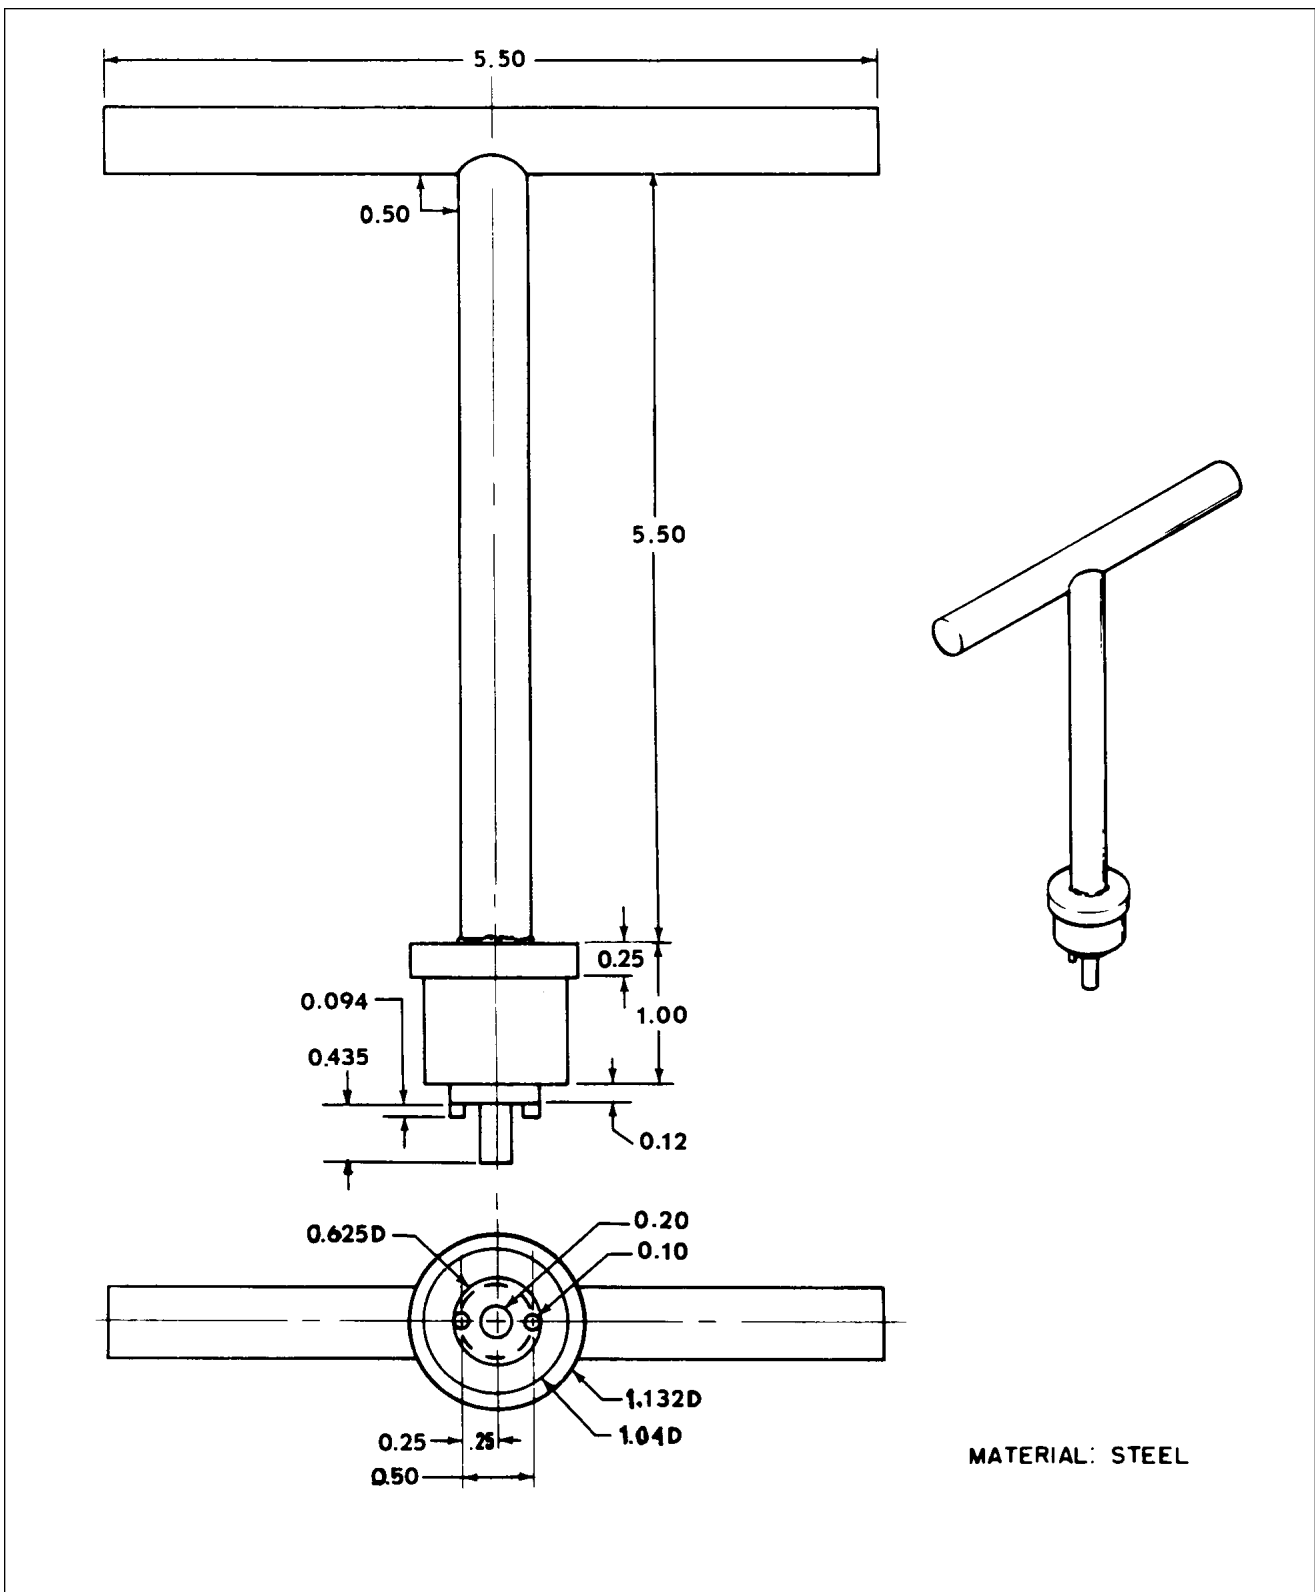

Figure 32-2. Orifice Replacement Tool
- c. Remove orifice assembly from within housing by rotating it counterclockwise out of housing with a 0.50 x 0.125 stud type spanner wrench. (Refer to Figure 32-2.)
5. To eliminate side play of torque links, use 0.005 shim washers (Piper P/N 63311-03) as required. Maximum side play is 0.005/0.007. (Refer to Figure 32-2.)